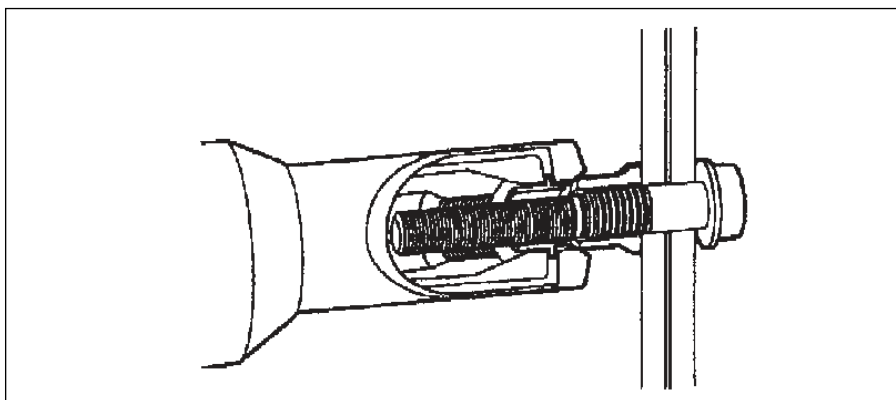

Figure 1.10 Place Installation Tool Over Fastener Pintail
- 3) Place the Huck installation tool over the HP 8 fastener pintail (See Figure 1.10)